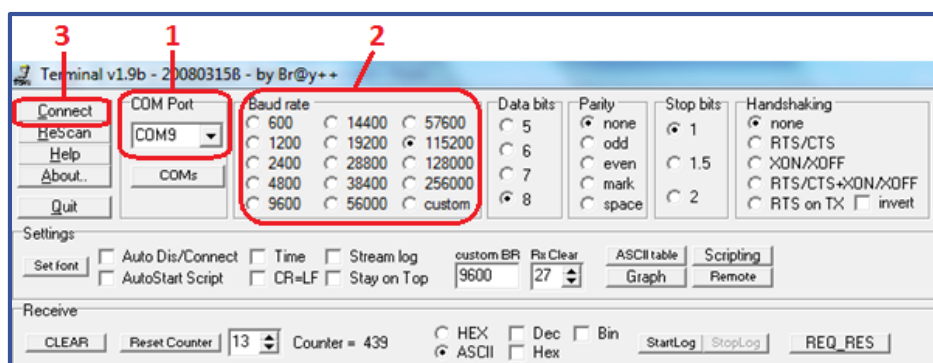

Figure 3
7. Open up the terminal program mentioned from earlier and locate the setup port which will appear as a COM port. Select the correct COM port from the drop down menu as shown in figure 3 box 1. The correct COM port should be the last one on the list from the drop down menu.
The default BAUD rate for setup is 115200 and the BAUD rate for info is 19200. These can be selected from the pre-set figures shown in figure 3 box 2 above. *Note - A BAUD is a unit used to express the speed of transmission of electronic signals, corresponding to one information unit or event per second.*
8. Now click connect, highlighted in figure 3 box 3 above.